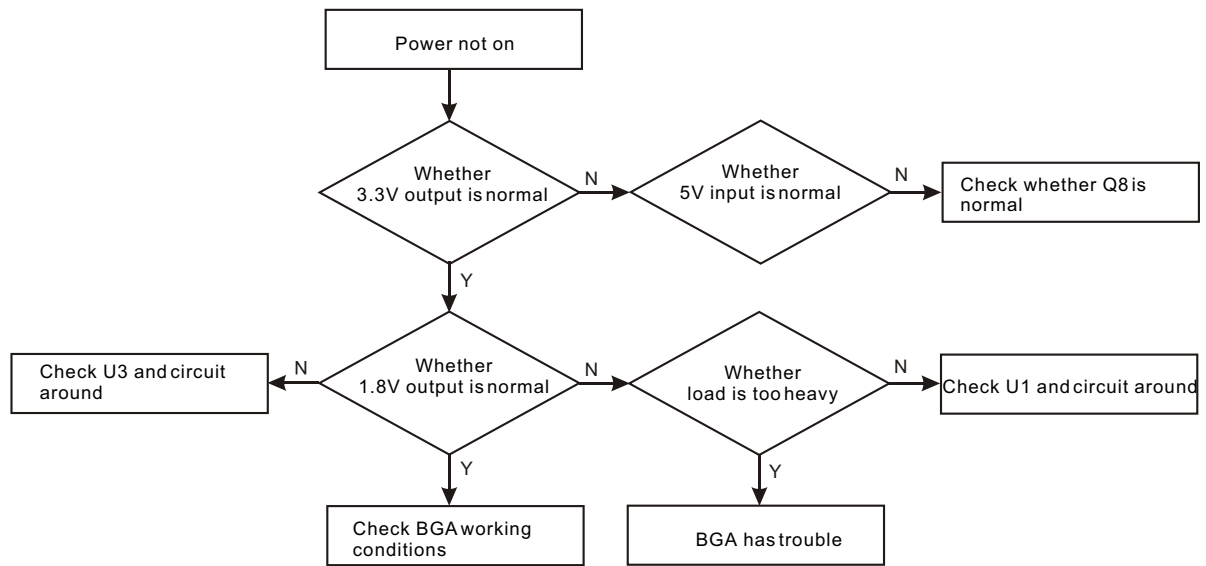

Figure 3.3.2.5 Power management circuit troubleshooting flow chart
6. Troubleshooting process for “ON/OFF control circuit” is shown in the figure 3.3.2.6: